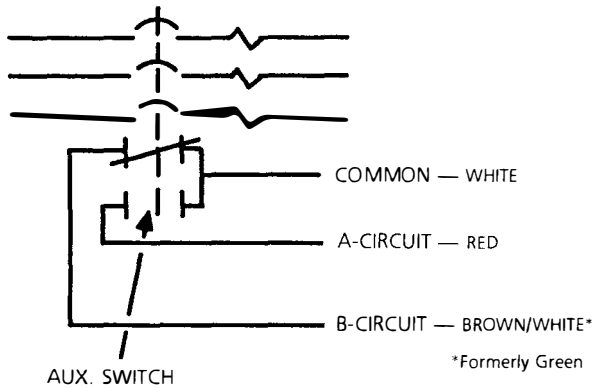

Fig. 18
- a. Verify that "A" contacts Fig. 18. (red and white leads) are open when breaker is open.